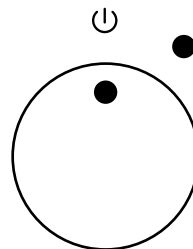
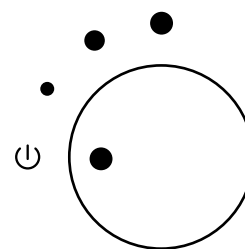

Fig. 4
Fig. 5
WHEL-3 ... model (Fig. 4), WHEL-6... / WHEL-7... model (Fig. 5)
- Water heating is activated using a switch (Fig.4; Fig.5)